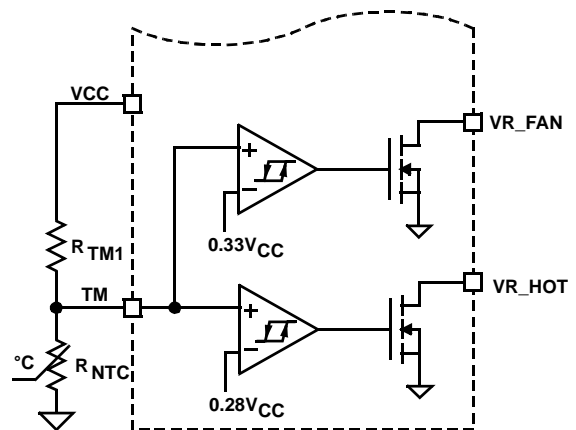
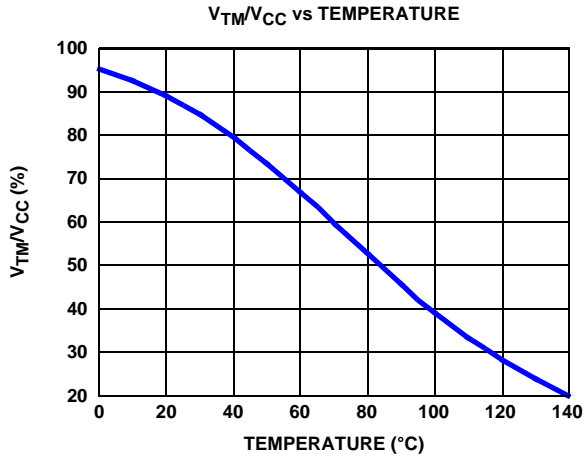

FIGURE 11. BLOCK DIAGRAM OF THERMAL MONITORING FUNCTION
FIGURE 12. THE RATIO OF TM VOLTAGE TO NTC TEMPERATURE WITH RECOMMENDED PARTS
The diagram of thermal monitoring function block is shown in Figure 11. One NTC resistor should be placed close to the power stage of the voltage regulator to sense the operational temperature, and one pull-up resistor is needed to form the voltage divider for the TM pin. As the temperature of the power stage increases, the resistance of the NTC will reduce, resulting in the reduced voltage at the TM pin. Figure 12 shows the TM voltage over the temperature for a typical design with a recommended $6.8k\Omega$ NTC (P/N: NTHS0805N02N6801 from Vishay) and $1k\Omega$ resistor R_{TM1} . We recommend using those resistors for the accurate temperature compensation.
Based on V_{CC} voltage, ISL6326 converts the TM pin voltage to a 6-bit TM digital signal for temperature compensation. With the non-linear A/D converter of ISL6326, the TM digital signal is linearly proportional to the NTC temperature. For accurate temperature compensation, the ratio of the TM voltage to the NTC temperature of the practical design should be similar to that in Figure 12.
1. Properly choose the voltage divider for the TM pin to match the TM voltage vs temperature curve with the recommended curve in Figure 12.